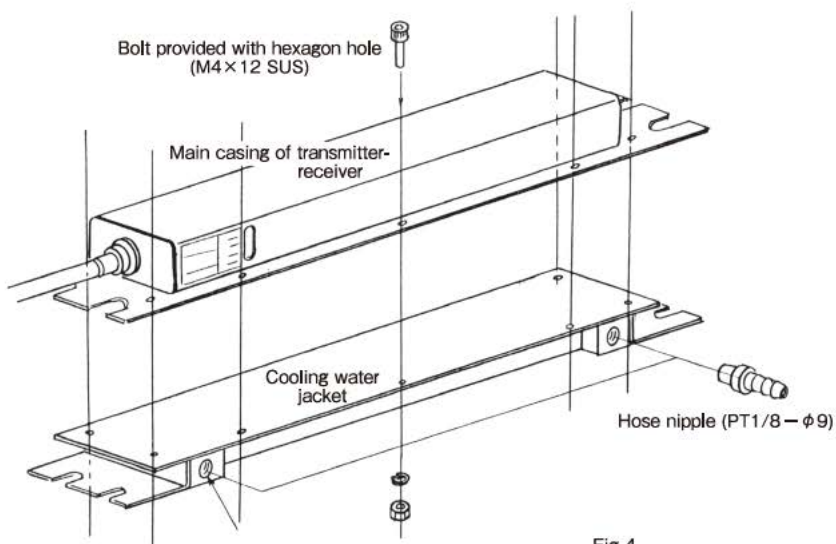

Fig 4
- By locating the water supply and exhaust ports of the cooling water on the back side of the transmitter-receiver, fix the main casing of the latter on the cooling water jacket. (Fig.4)
- Use seven pairs of bolts and nuts to fix the main casing of the transmitter-receiver on the cooling water jacket. (Fig.4)